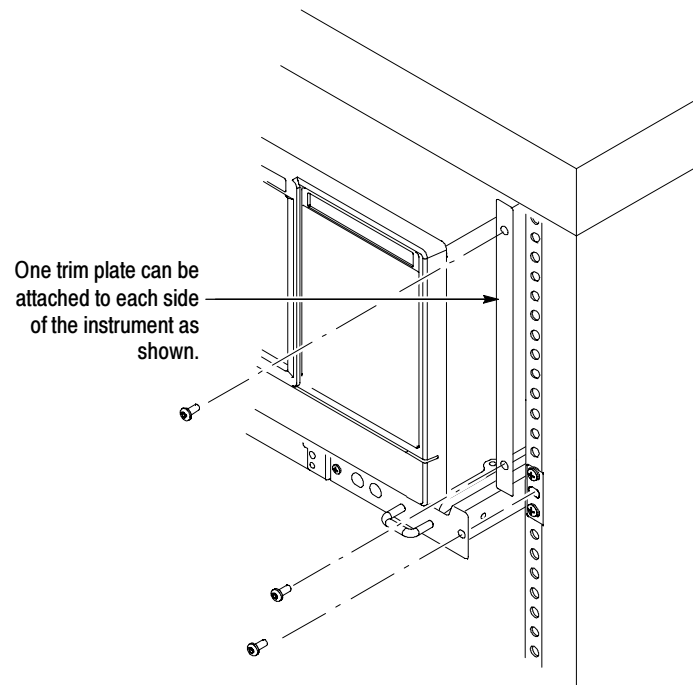

Figure 11: Installation of Trim Plate
13. Install the trim plates as shown in Figure 11.